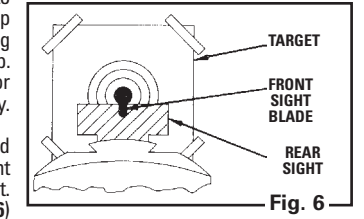

Fig. 6
- The airgun is correctly aimed when the front sight blade is positioned exactly in the center of the notch of the rear sight. The top of the front sight blade should be even with the top of the notch in the rear sight. The bulls-eye should appear to rest on the top of the front sight. (Fig. 6)